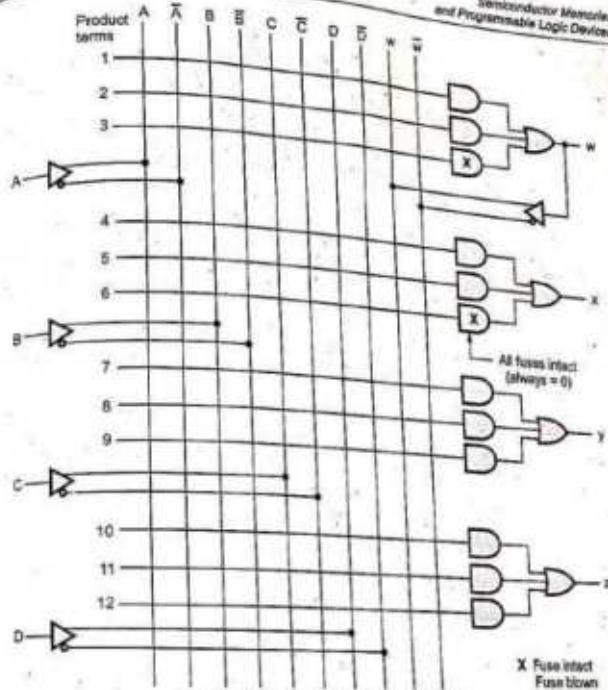

Fig. 7.14.1 Array logic for typical PAL
- Fig. 7.14.1 shows the array logic of a typical PAL.
- The commercial PAL devices have more gates than the one shown in Fig. 7.14.1.